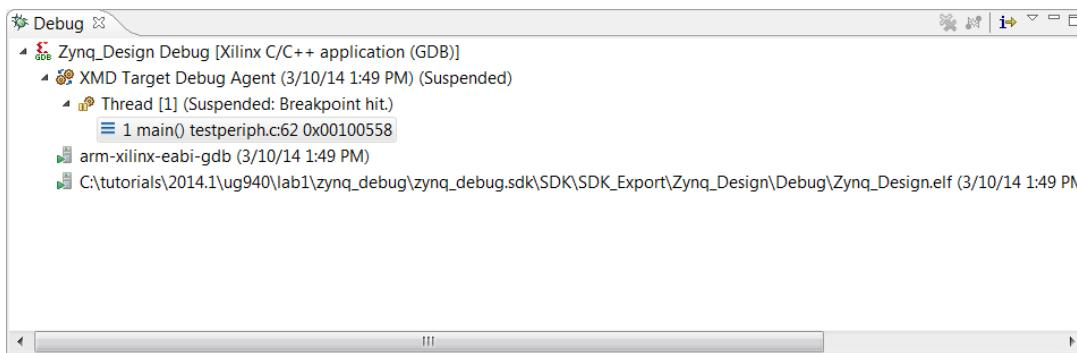

Figure 40: Processor Core to Debug
13. In the Debug tab, expand the tree to see the processor core on which the program is running, as shown in Figure 40.